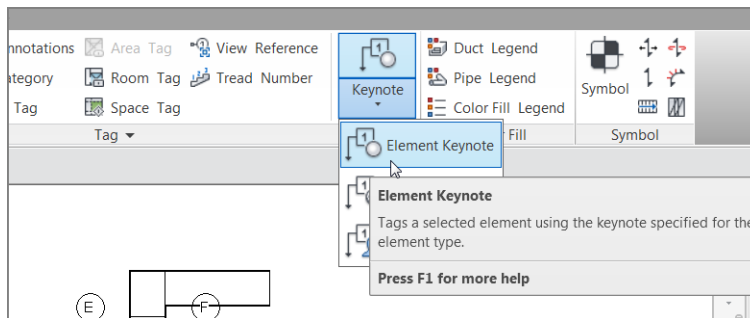

FIGURE 11.88: Select Keynote > Element Keynote.
3. On the Tag panel of the Annotate tab, select Keynote > Element Keynote, as shown in Figure 11.88.